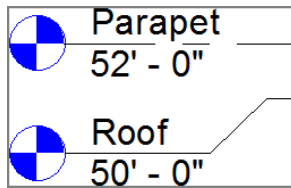

FIGURE 3.18: Controlling the visibility of the levels at the other end
3. Turn on the Roof-level left-end bubble as well. Use the blue adjustment icons (elbow icons) to move the level out of the way (see Figure 3.18).